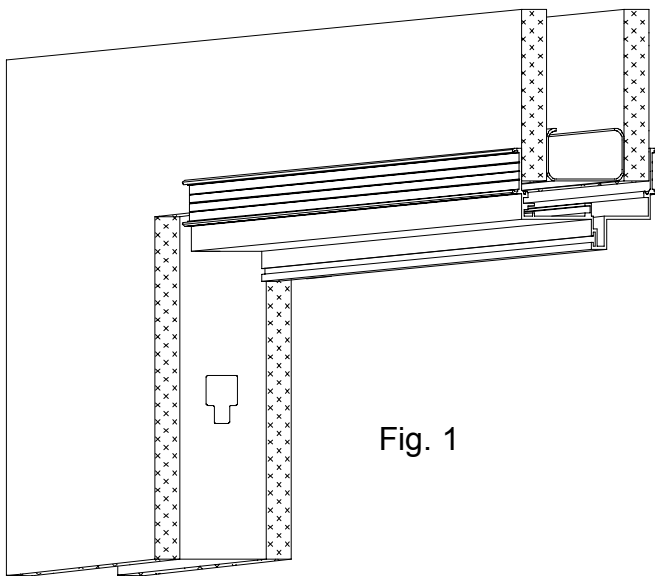

Fig. 1
4. If overall width of each individual preassembled window is equal to or less than door opening size, then preassemble window (see fig. 1) on the floor and install in door opening side and slide unit over the sill channel to the proper location. Continue till all windows are in place.
6. K D door frame into opening and plum level and square frame. Attach to wall and pin bottom of strike jamb to sill channel. Attach corner clips at top. (see fig. 1)
4. Check opening for proper swing, then slip header over the wall. (Fig. 1)